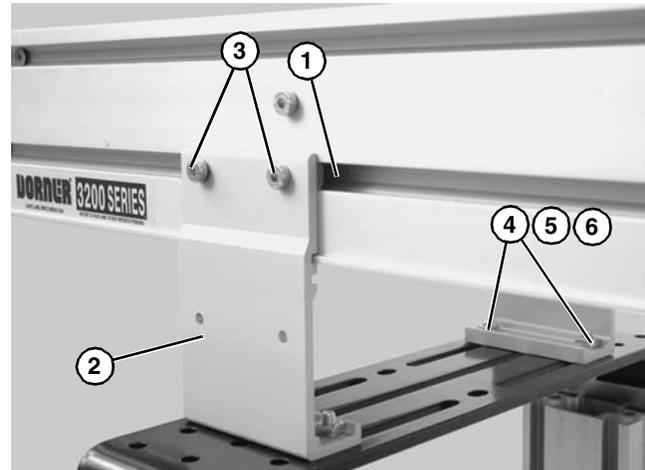

Figure 11
3. Insert T-bars (Figure 10, item 5) into conveyor side slots (Figure 11, item 1). Fasten brackets (Figure 11, item 2) to conveyor with mounting screws (Figure 11, item 3).
4. Fasten brackets to support stand with mounting screws (Figure 11, item 4), washers (Figure 11, item 5) and nuts (Figure 11, item 6).
5. Tighten screws (Figure 11, item 3 & 4) to 60 in-lb (7 Nm).